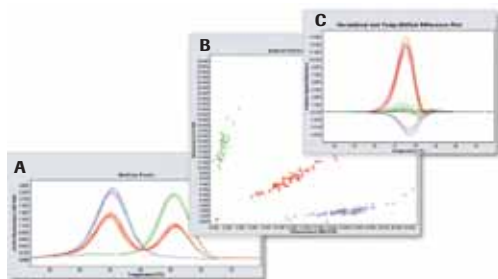

Figure 1: Confidently detect genetic variation with the powerful combination of LightCycler® 480 System analysis modules for:
- **Detect genetic variation with confidence:** Use a powerful combination of three robust and convenient analysis methods to obtain comprehensive results (Figure 1).